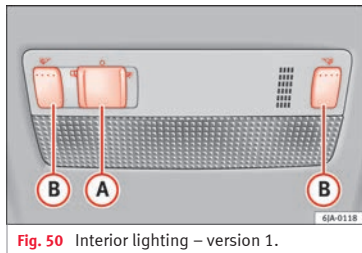

Fig. 50 Interior lighting – version 1.
– Move the switch **A** \ggg Fig. 50 toward the side of the light. The ☞ symbol will be displayed.
– Move the switch **A** \ggg Fig. 50 to the centre position **O**.
– Move the switch **A** \ggg Fig. 50 to the centre of the light. The ☞ symbol will be displayed.
– The reading lights are switched on and off by pressing switch **B** \ggg Fig. 50. Where the courtesy light is on (switch **A** \ggg Fig. 50 in position ☞), the light will come on if: